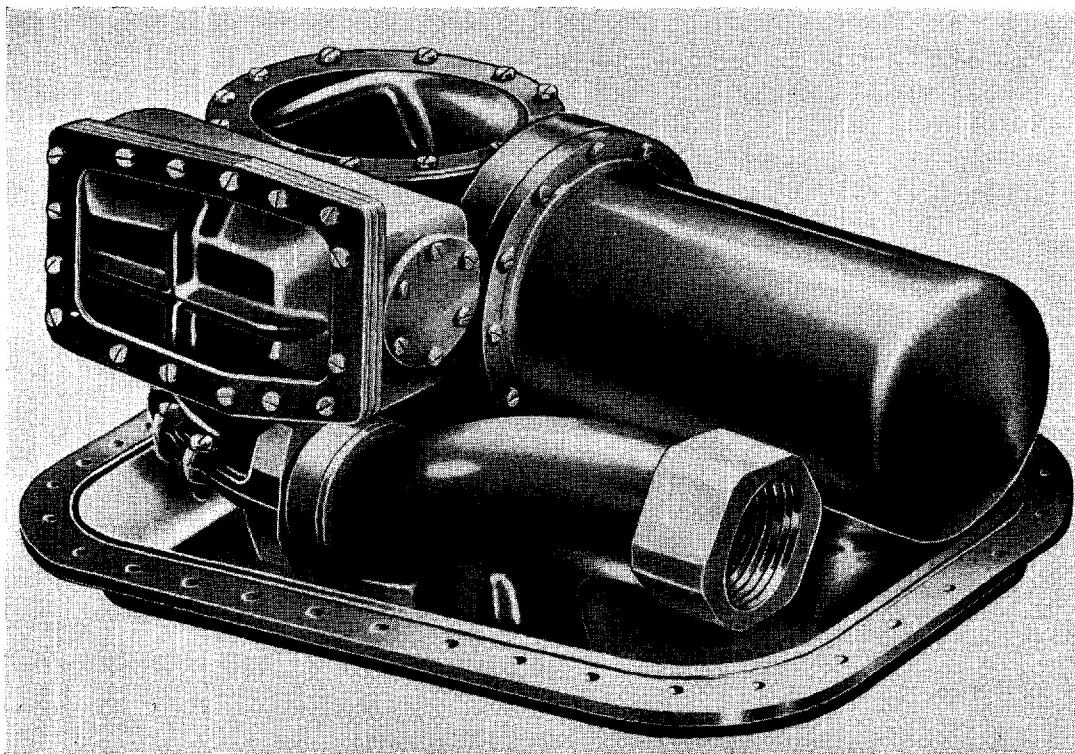

Fig. 1. General view of SPE 807, Mk. 2 fuel pump
2. SPE 807, Mk. 2 pump (*fig. 1*) comprises a horizontally mounted motor, driving a vertical impeller shaft at right angles to it, through reduction gearing. The pump is fitted with a sump, or dished baseplate, which is inclined at an angle from the horizontal axis of the motor. The fuel flows into the sump before passing into the pump, thus the tank may be completely emptied of fuel, either by the action of the pump, or by the removal of the drain plug, situated in the baseplate.
spindle, and secured with a self-locking nut. The central bore of the casting contains a cylindrical bush, in which are the metal bellows gland, and the carbon bearing housing. The bush assembly may be removed complete, and is retained in position by a series of screws. An inspection cover, situated on the top of the pump casting, gives access to the bevel gearing (*fig. 1*).